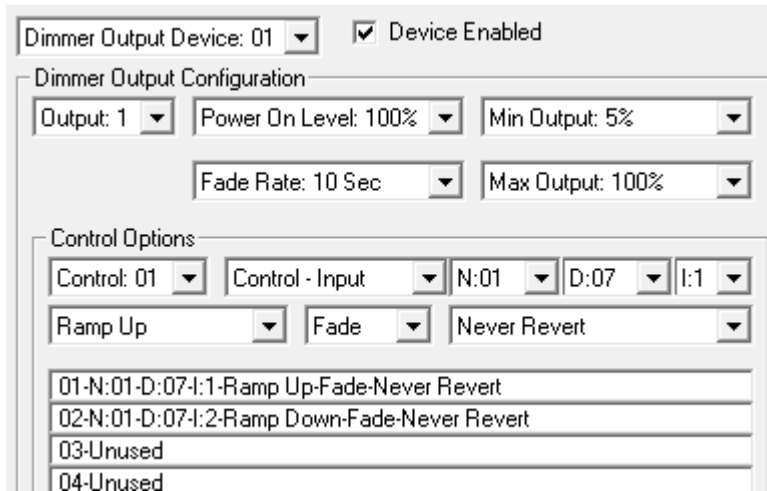

Figure 1 Dimmer Output
- Enable the dimmer output for the device used. See Figure 1.